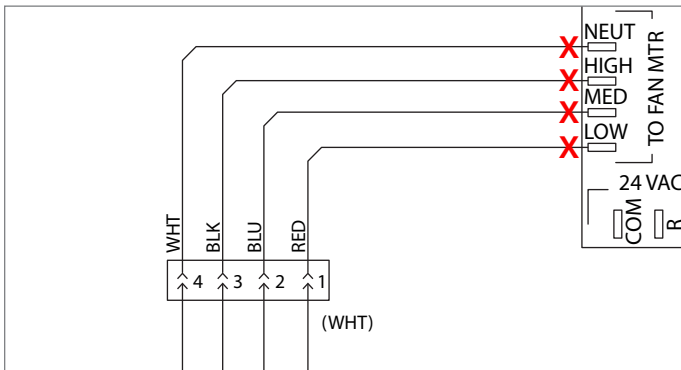

Figure 5 - Removing PSC motor wires
- a. PSC motors. (See Figure 5.)
- v. Remove BLACK wire from "LINE VOLTAGE IN" portion of FCRB. (**NOTE:** for dual motor units ONLY, there will be two wires connected. Remove butterfly/Y connector and remove both wires from connector). Exact location of wire will be determined by the unit's voltage. (115V shown in Figure 5.)